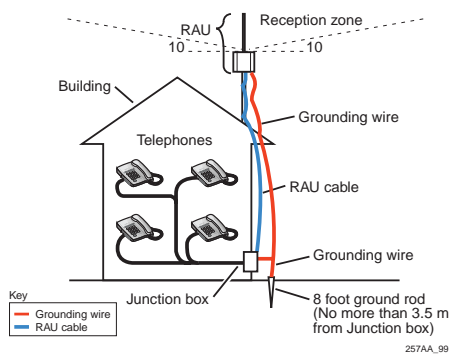
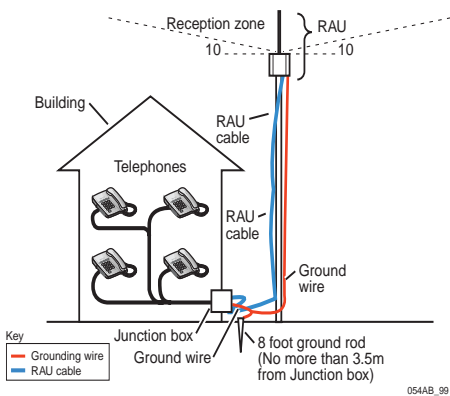
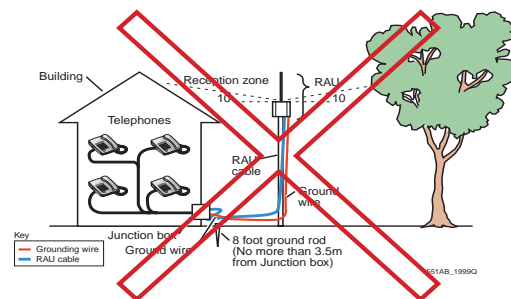

Figure 2. Roof mounted RAU
Figure 3. Pole mounted RAU
Figure 4. Incorrect placement of RAU
- Two recommended mounting configurations are shown in Figure 2 and Figure 3. A poor choice for mounting is shown in Figure 4. Note that in the figure, reception is blocked both by building and by tree.